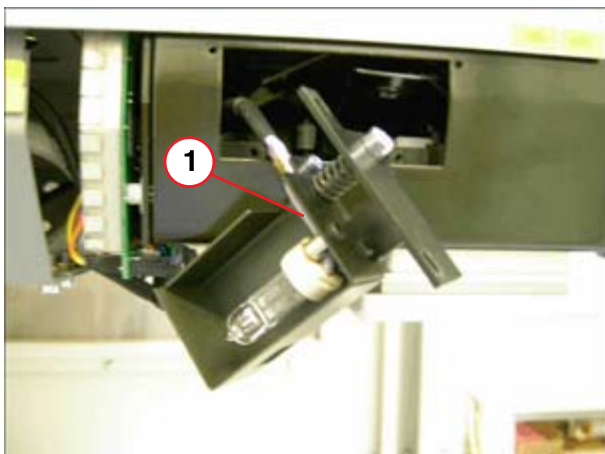

Fig. 26: Lamp holder
- Replace the lamp (1/ Fig. 26 / p. 48)